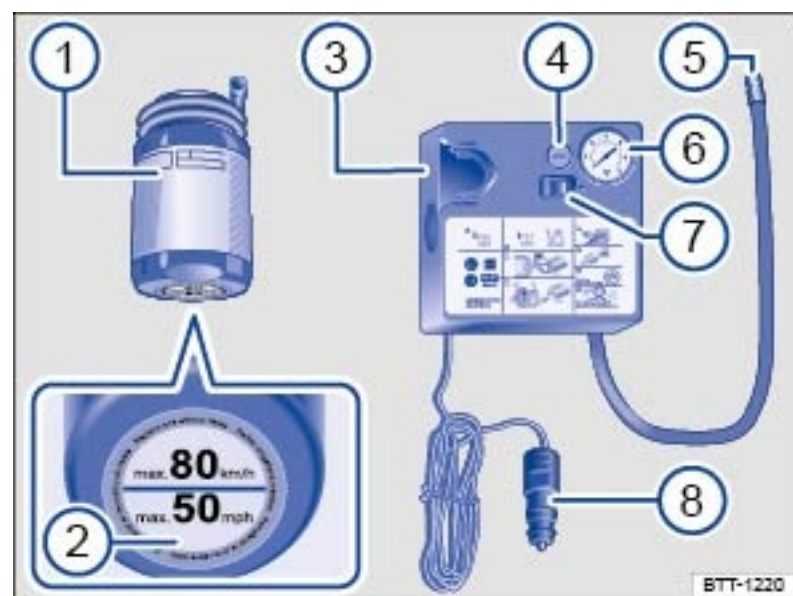

Fig. 219 Basic diagram: Contents of the tire mobility set.
The tire mobility set may be stored in one of several places in the luggage compartment (for example, in the side storage compartment or under the floor covering). It contains the following → Fig. 219:
- › Vigorously shake the tire inflation cylinder → Fig. 219 ① a few times back and forth.
- › Tightly screw the inflation hose on the air compressor → Fig. 219 ⑤ to the valve on the top of the sealant cylinder.
- › Tightly screw the filling hose from the tire inflation cylinder → Fig. 219 ① to the tire valve.
- › Hold the cylinder with the bottom pointing up and insert the top of the cylinder into the notch in the air compressor → Fig. 219 ③.
- › Insert the 12 Volt plug → Fig. 219 ⑧ into one of the vehicle's 12 Volt sockets → Power outlets.
- › Switch the air compressor on using the ON/OFF switch → Fig. 219 ⑦.
Connect the inflation hose → Fig. 219 ⑤ from the air compressor to the tire valve and read the tire pressure on the tire pressure gauge ⑥.